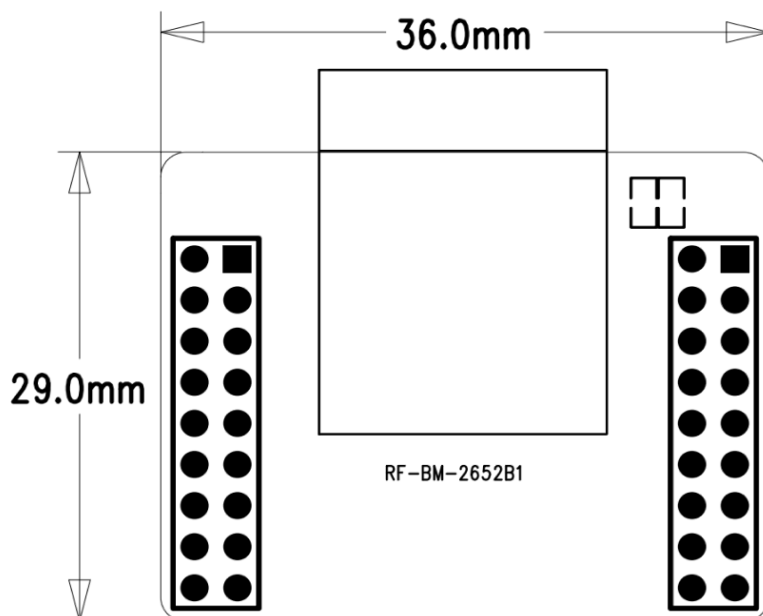

Figure 4. Dimension of the Pinboard
4. After installation, right-click on "Computer - Management - Device Manager - Port" to see if the driver has been installed successfully. The successful installation is shown in Figure 4 (Repeat step 2 if it is shown as a yellow exclamation mark).